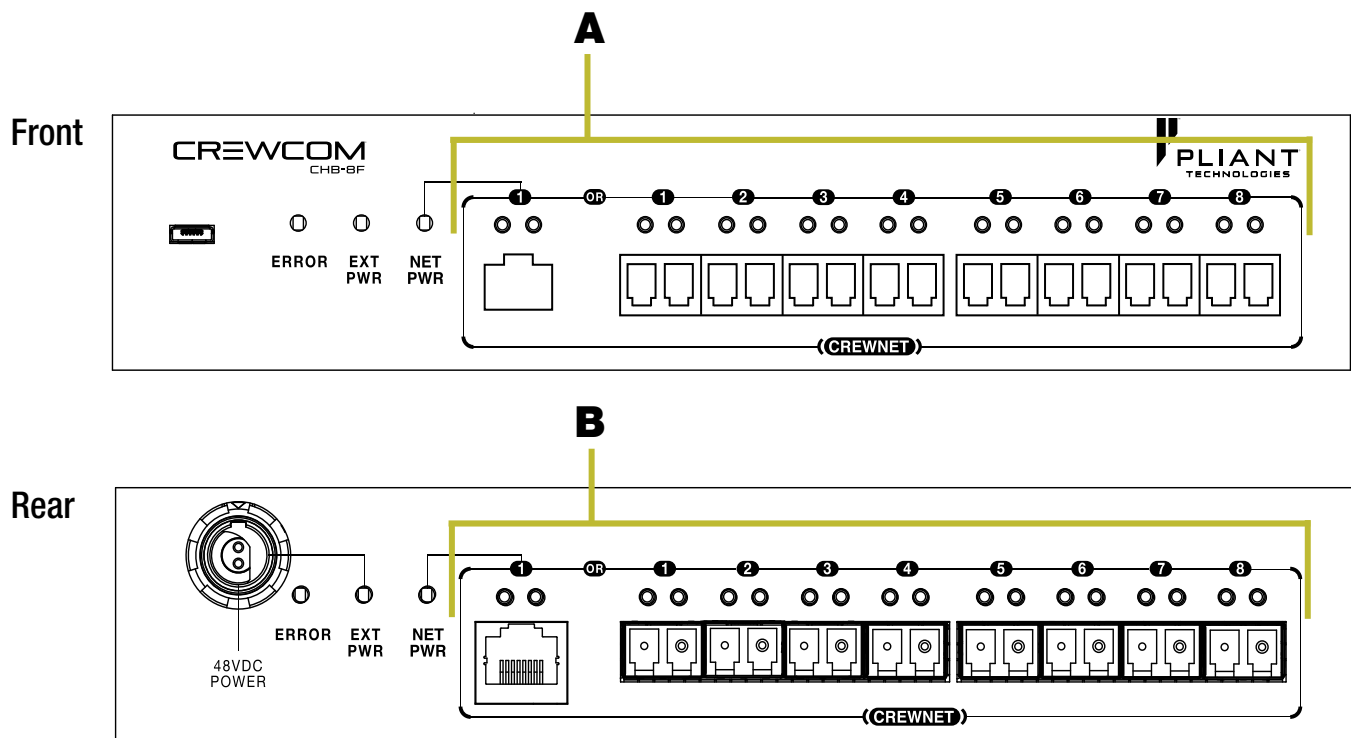

Figure 2: Fiber Hub Front and Rear View
**Note:** The front and rear Fiber Hub labels and LEDs are identical and display identical alerts. See Figure 2: